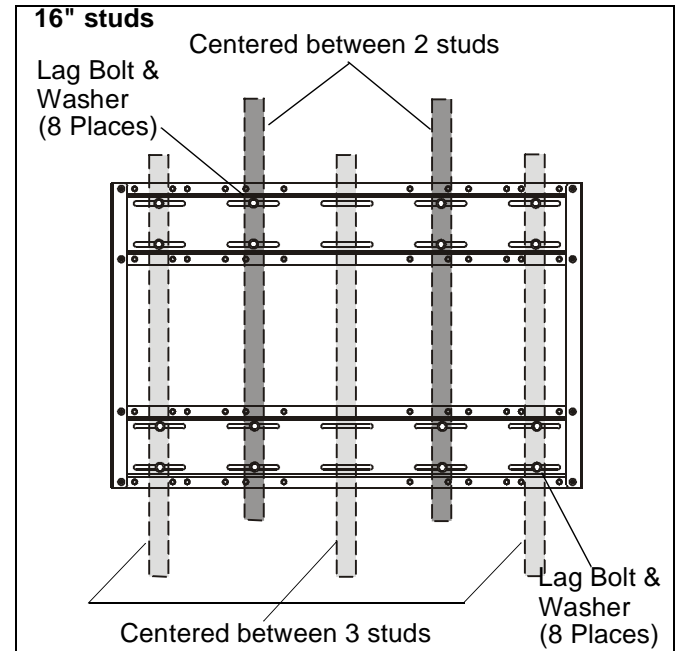

Figure 5
- 16" on center studs: The mount is approximately centered between two or three studs as shown. (See Figure 5)